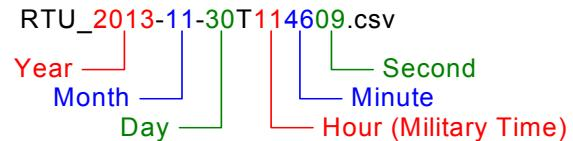

Figure 4: Restoration File Name Structure
2. After the backup completes, a comma separated value (.csv) restoration file is created in the top level of the flash drive. The file name is drawn from the date and time settings in the UCB at the time you create the file. The restoration file size is generally less than 30 KB. Figure 4 shows an example of the .csv file name structure.